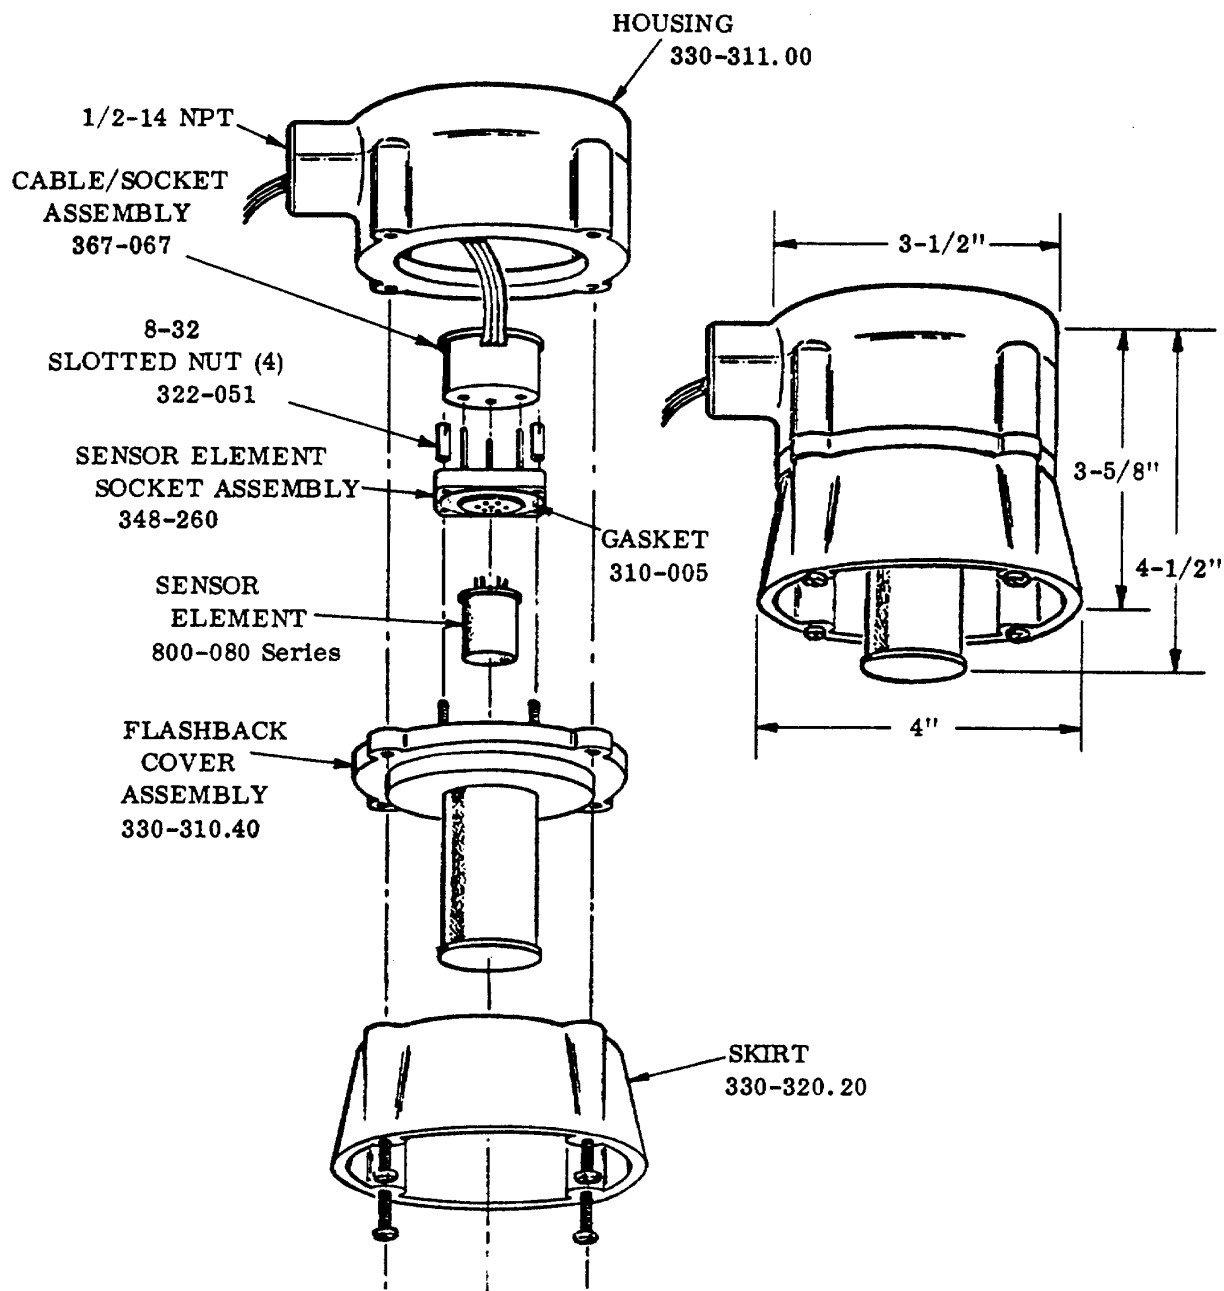

Figure 2-19. Detector Model 800-086 Exploded View
- a) To expose sensor element of detector 800-086 (Figure 2-19): Loosen four screws holding skirt and flashback cover assembly to housing. Remove skirt and withdraw flashback cover from housing. Remove four slotted nuts holding element socket assembly to flashback cover assembly and withdraw flashback cover assembly from socket assembly to expose sensor.